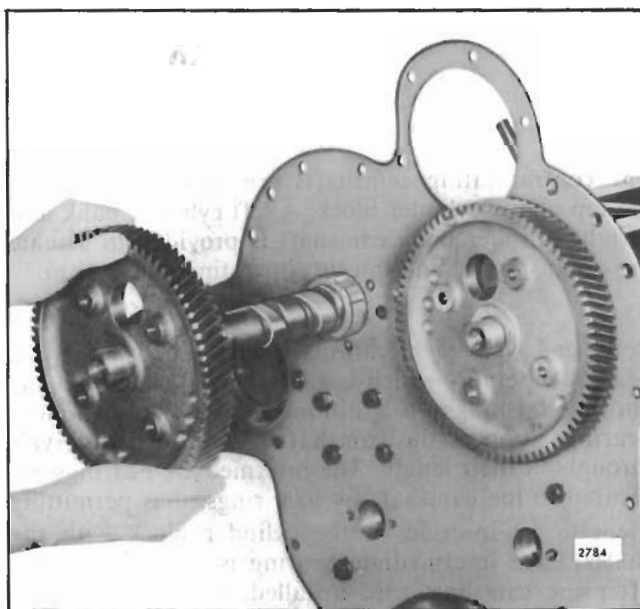

Fig. 5 - Removing or Installing Camshaft Assembly
17. Withdraw each camshaft, bearing and gear assembly from the cylinder block as shown in Fig. 5.